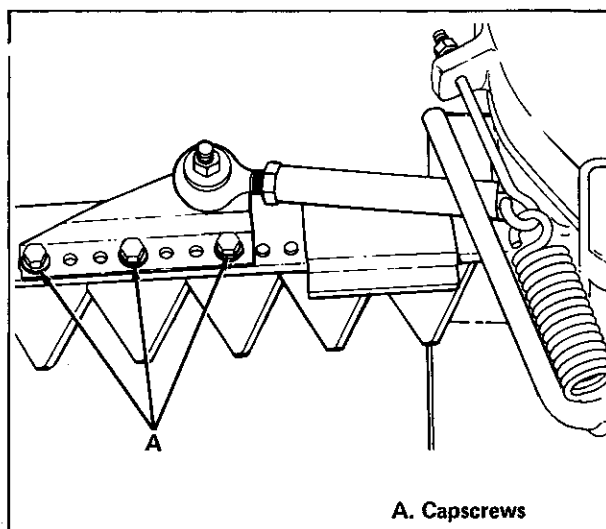

Figure 14. Sickle Knife Replacement
1. Remove three capscrews (item A, figure 14) and lockwashers from the sickle knife.